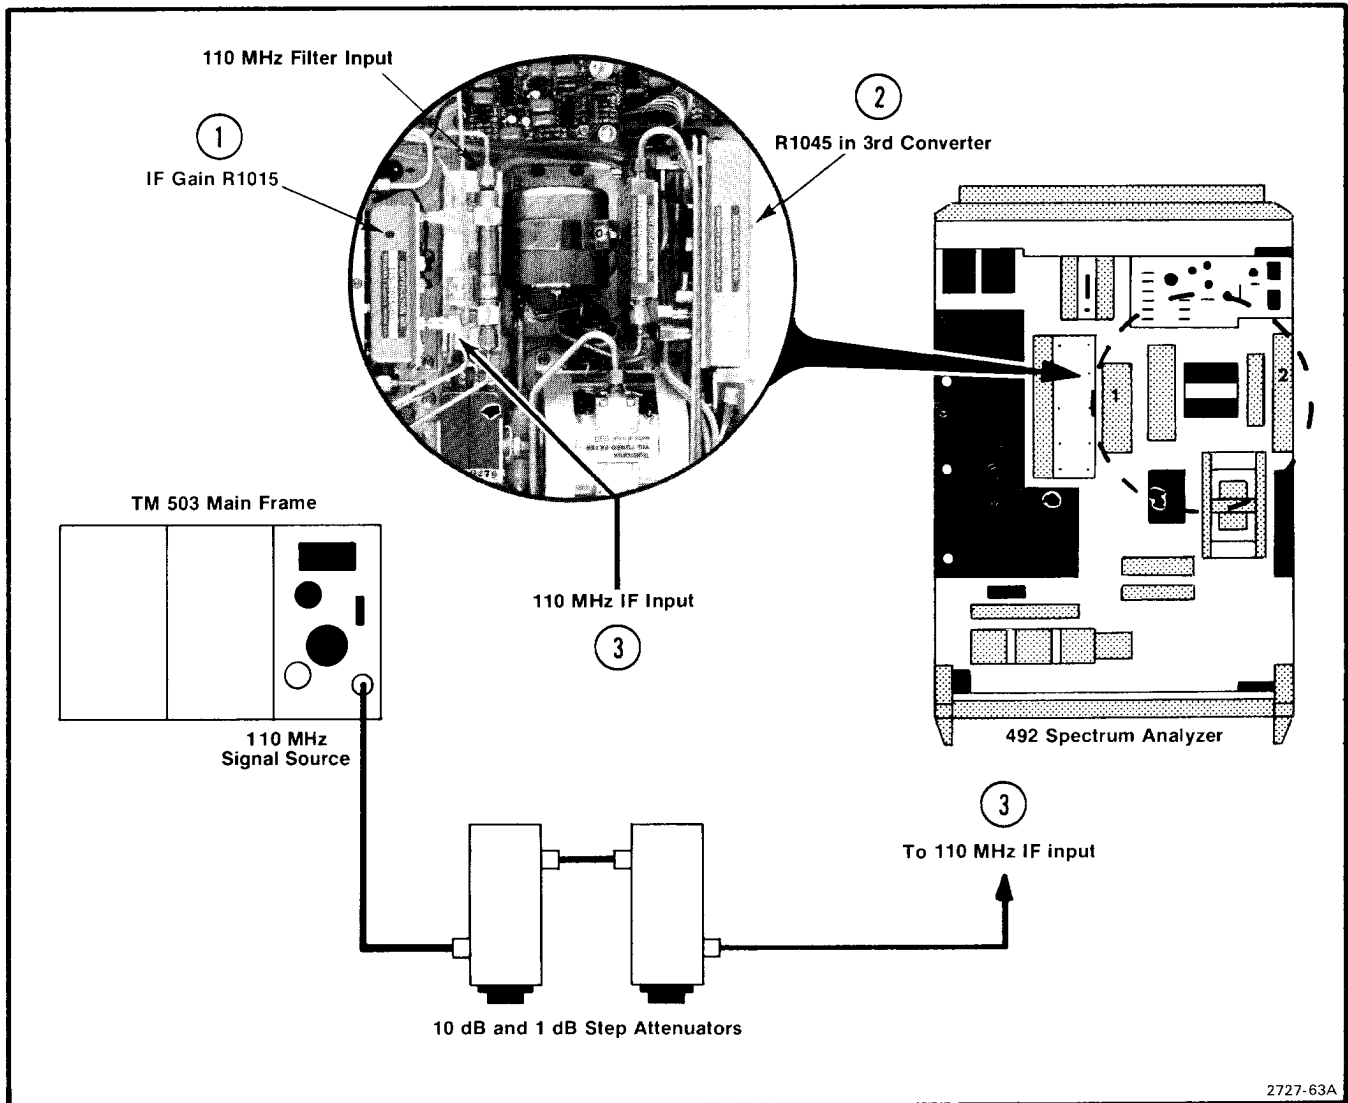

Fig. 3-46. Test equipment setup for adjusting IF gain and the location of the calibrator level adjustment.
step 3 of the Performance Check part. Output level is adjusted with Cal Level, R1045 (Fig. 3-46). An adjustable capacitor, C3031 within the cover, is only adjusted if the oscillator fails to start. It is adjusted for maximum output. If the Cal Level adjustment (R1045) should run out of range, change the value of select resistor A34A1R1018.
a. Set the RESOLUTION BANDWIDTH to 100 kHz, REF LEVEL to -20 dBm, and apply a -21.5 dBm, 110 MHz signal, through step attenuators, to the input (J365) of the 110 MHz filter (Fig. 3-46).
d. Set the step attenuators for 21 dB; then apply the 110 MHz signal to the input (J321) of the 110 MHz IF amplifier (Fig. 3-46).
i. Adjust the 110 MHz IF Gain, R1015, (Fig. 3-46) for a signal amplitude of 5 divisions. (If this cannot be achieved, it indicates excessive loss through the front end.)